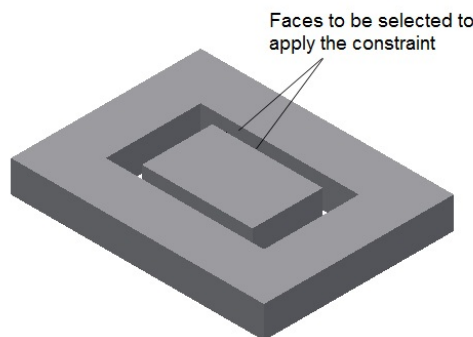

Figure 14-39 Faces selected to apply the **Mate** constraint
11. Similarly, apply the **Mate** constraint with an offset value of 10 mm between the selected faces, as shown in Figure 14-39.